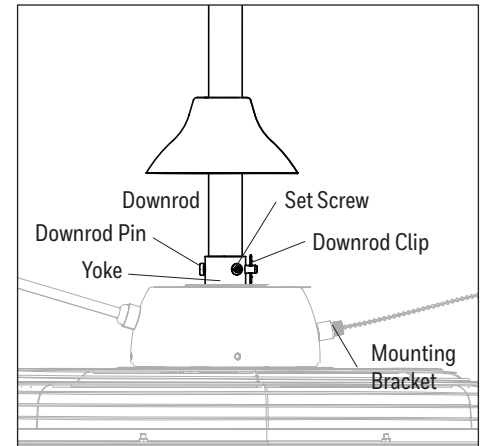

Figure 1.3
3. Align the holes of the downrod with the holes in the yoke. Insert the downrod pin and downrod clip. Then retighten the two set screws to secure (Figure 1.3).